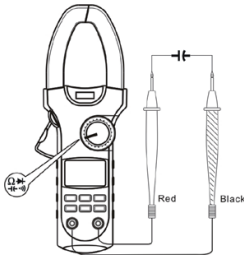

Figure 10
H. Measuring Capacitance (UT208A Only, See Figure 10)